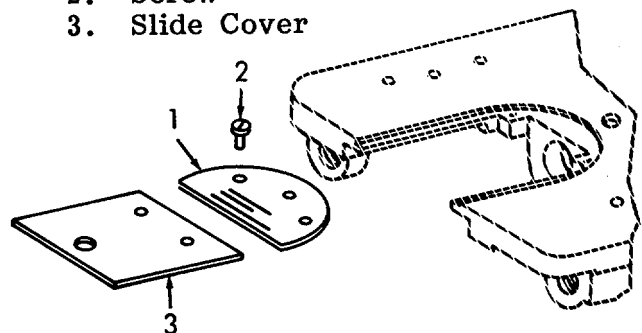

Figure 6-56. Slide and Throat Cover, Installation.
(21) Refer to Figure 6-56. Place throat plate (1) into position.
(22) Install two screws (2).
(23) Install the slide cover (3) by sliding the cover into position.